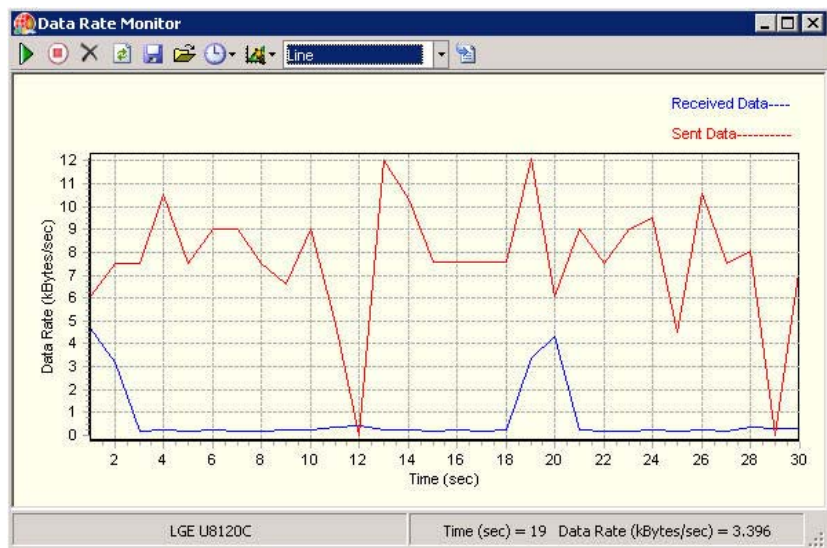

Figure 5: Example data rate monitor capture of an FTP download running at the same time as an FTP upload
- a data rate monitor to graphically display the data throughput rates (as shown in Figure 5), and